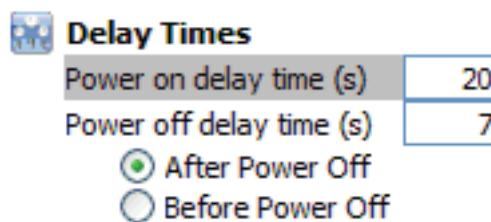
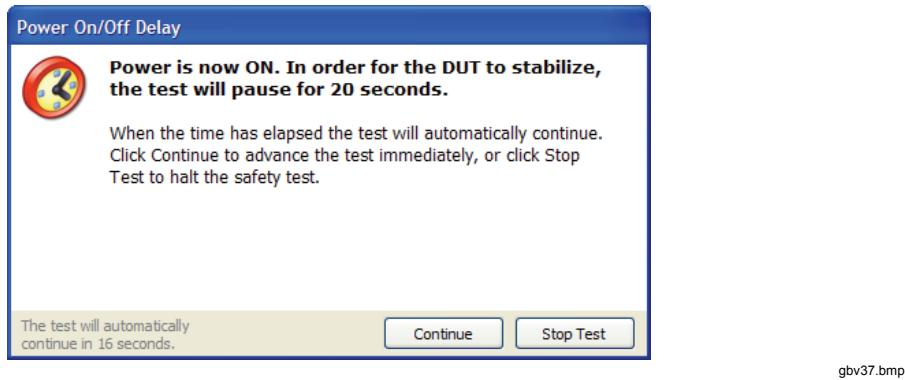

Figure 4-2. Editing Power On/Off Delay Times
Figure 4-3. Power On Delay Message
2. To set a delay in seconds after the ESA612 turns on the DUT but before the safety test continues, click in the text box to the right of **Power on delay time (s)** and enter a delay between 0 and 9,999. See Figure 4-2.
3. To set a delay in seconds after the ESA612 turns off the DUT, click in the text box to the right of **Power off delay time (s)** and enter a delay between 0 and 9,999. See Figure 4-2.
When performing an Auto Sequence configured as the example in Figure 4-2, a 20 second delay is inserted each time the DUT outlet on the ESA612 is powered on. The dialog box shown in Figure 4-3 is displayed to indicate the progress while the Plug-In is waiting to continue the test.